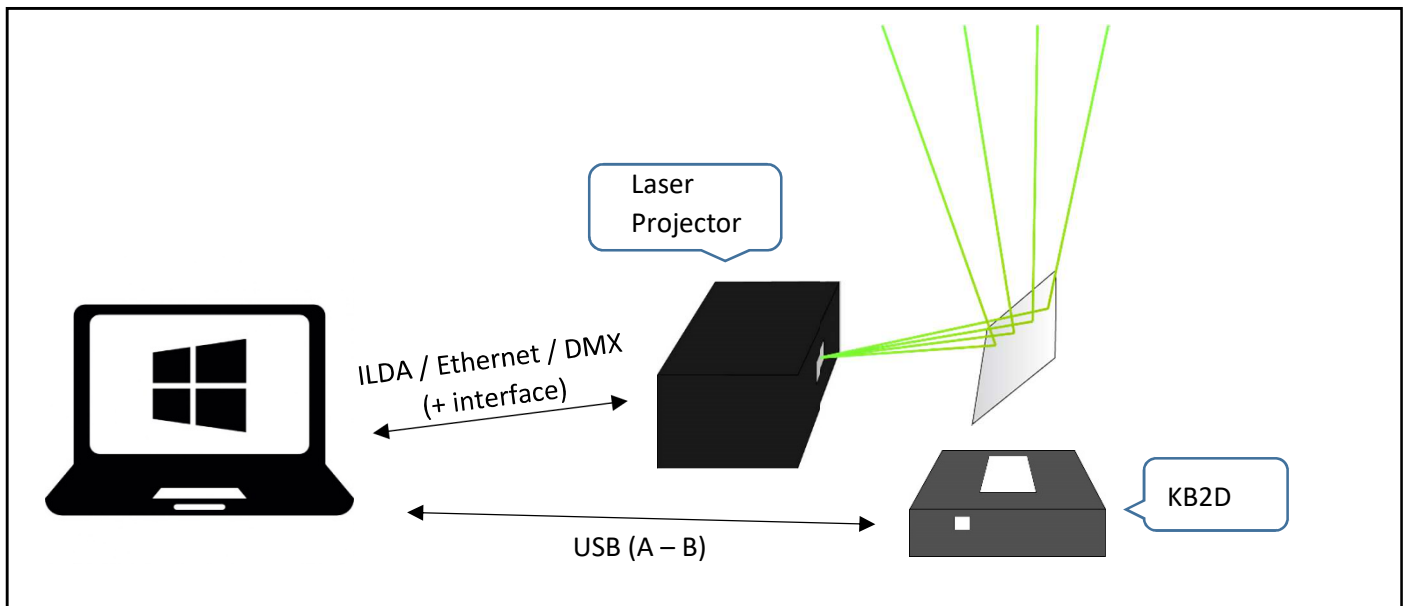

Fig. 1: Typical installation of the KB2D interactive device for a laser Harp application.
- 2- Place your KB2D device accordingly to Fig. 1 on page 3. Connect the laser and KB2D on your computer and project a laser harp pattern on your laser. If you have the standard KB2D (with green dichroic filter), the beams should include green wavelength (at least, it can be teal, yellow, white...) in order to be detected.
- In order to reduce parallax error (variation of detection angle with height), the KB2D should be placed preferably close to the origin of the laser source (as shown on Fig. 1).